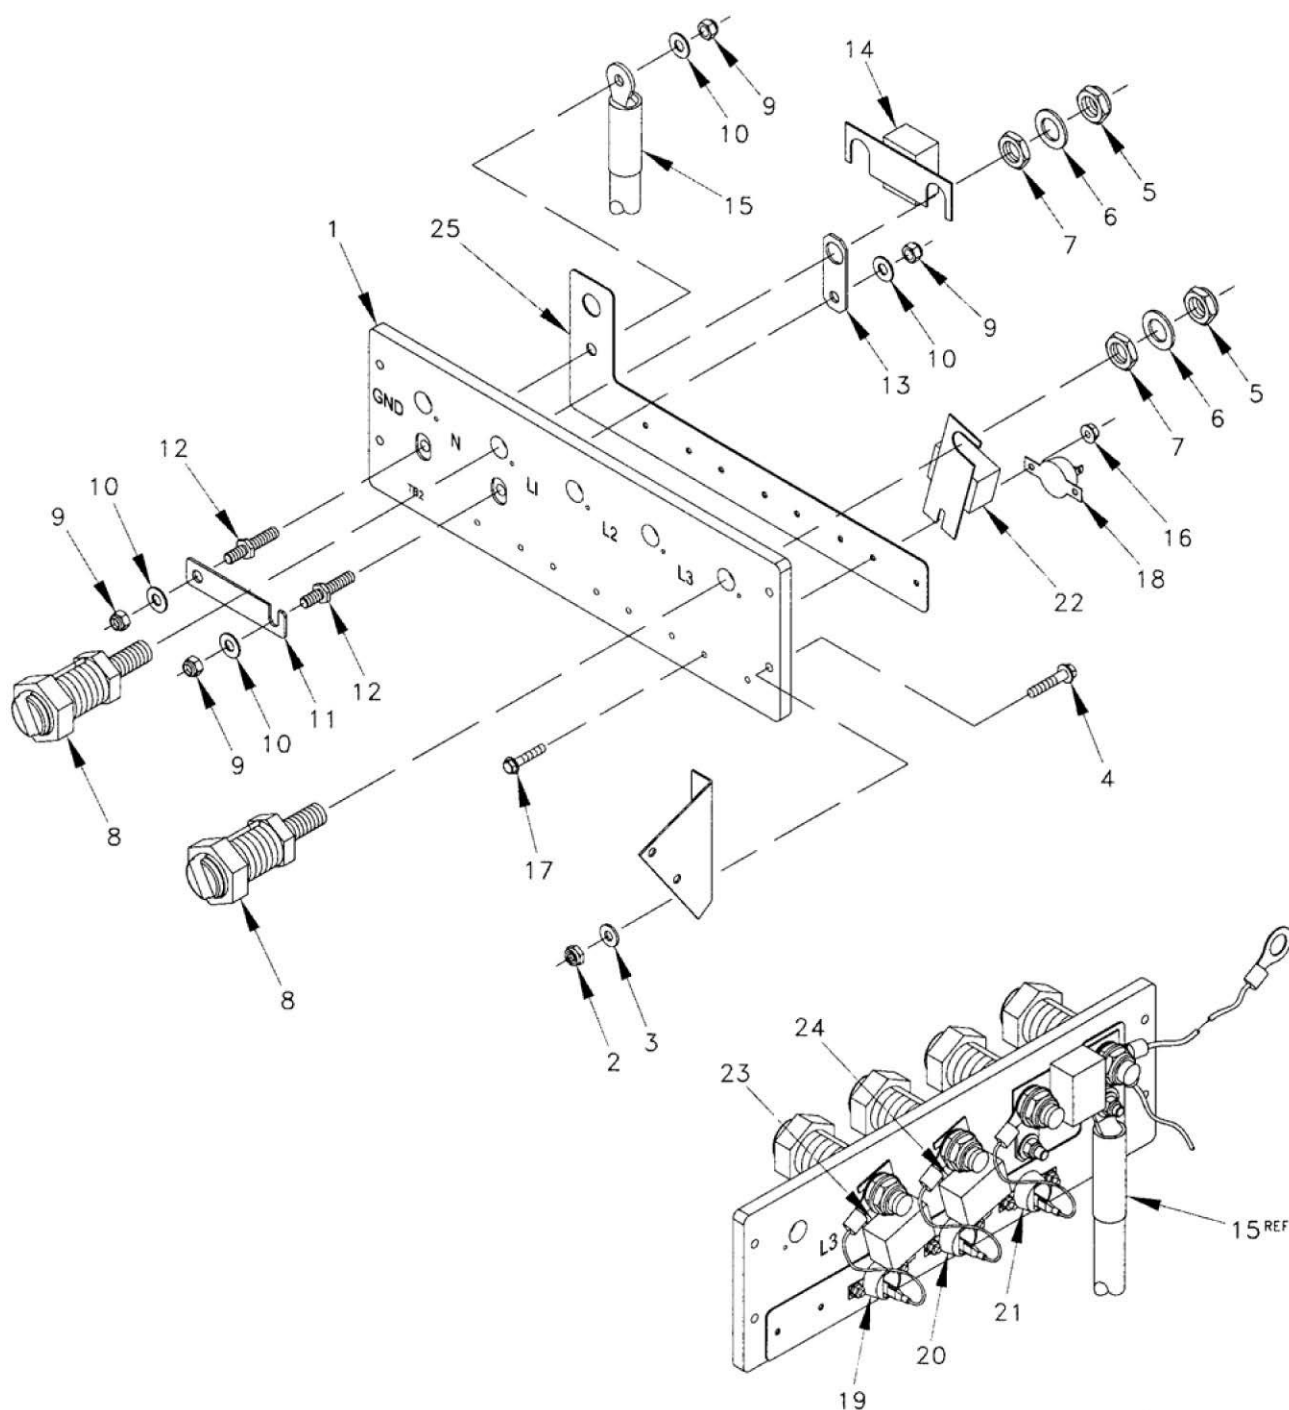

Figure 1. Load Terminal Board Assembly.
3. Tag and disconnect cables from front of load terminal board (Figure 1, Item 1) and pull cables through opening at rear of generator set.
4. Remove two locknuts (Figure 1, Item 2) two washers (Figure 1, Item 3), two screws (Figure 1, Item 4), and turn load terminal board (Figure 1, Item 1) partly over.
5. Remove five locknuts (Figure 1, Item 5) and washers (Figure 1, Item 6), and tag and disconnect wires from the rear of load terminal board (Figure 1, Item 1).
6. Remove five jam nuts (Figure 1, Item 7) and load terminals (Figure 1, Item 8).
7. Remove four locknuts (Figure 1, Item 9), washers (Figure 1, Item 10), two studs (Figure 1, Item 12), bus bar (Figure 1, Item 11), bus bar (Figure 1, Item 13), N to GND EMI filter (Figure 1, Item 14), and cable (Figure 1, Item 15).
8. Remove eight nuts (Figure 1, Item 16), eight screws (Figure 1, Item 17), varistors N (Figure 1, Item 18), L1 (Figure 1, Item 19), L2 (Figure 1, Item 20), and L3 (Figure 1, Item 21), EMI filters L1 (Figure 1, Item 22), L2 (Figure 1, Item 23), and L3 (Figure 1, Item 24), and ground plane bar (Figure 1, Item 25).
1. Install ground plane bar (Figure 1, Item 25), L3 (Figure 1, Item 24), L2 (Figure 1, Item 23), EMI filters L1 (Figure 1, Item 22), varistors L3 (Figure 1, Item 21), L2 (Figure 1, Item 20), L1 (Figure 1, Item 19), and N (Figure 1, Item 18), eight screws (Figure 1, Item 17), and eight nuts (Figure 1, Item 16).
2. Install cable (Figure 1, Item 15), N to GND EMI filter (Figure 1, Item 14), bus bar (Figure 1, Item 13), two studs (Figure 1, Item 12), bus bar (Figure 1, Item 11), four washers (Figure 1, Item 10), and locknuts (Figure 1, Item 9).
3. Install five load terminals (Figure 1, Item 8) and jam nuts (Figure 1, Item 7).
4. Remove tags, connect wires to rear of load terminal board (Figure 1, Item 1), and install five washers (Figure 1, Item 6) and locknuts (Figure 1, Item 5).
5. Position load terminal board (Figure 1, Item 1) and install two screws (Figure 1, Item 4), two washers (Figure 1, Item 3), and two locknuts (Figure 1, Item 2).
6. Remove tags and connect cables to front of load terminal board (Figure 1, Item 1).